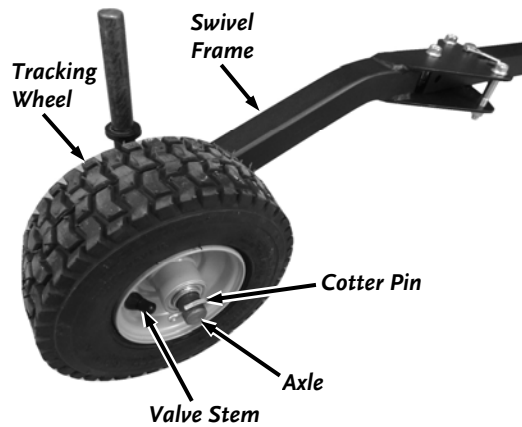

Figure 6
6. Slide the Tracking Wheel onto the Swivel Frame Axle (Valve Stem facing out) and secure with a Cotter Pin using Pliers (**Figure 6**).